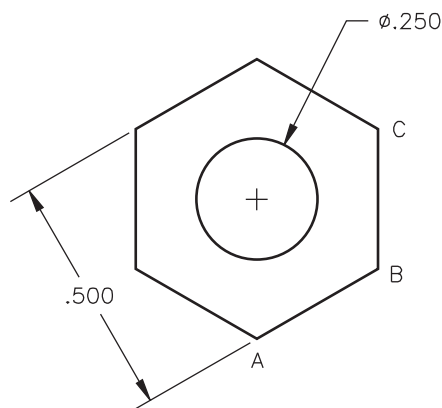

Fig. 31-7
2. Draw the top view of the nut shown in Fig. 31-7 according to the dimensions shown. Then find the following information: